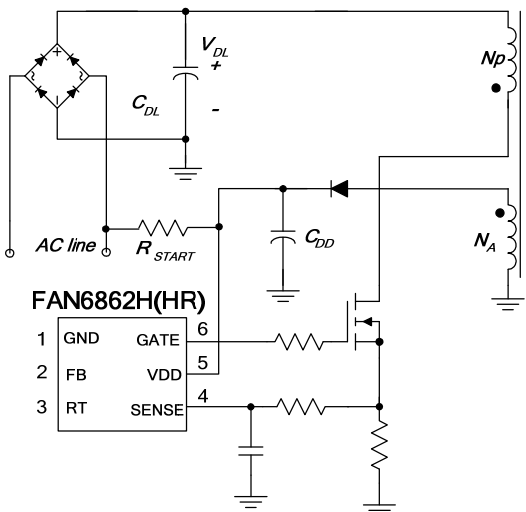

Figure 22. Startup Circuit
Figure 22 shows a typical startup circuit and transformer auxiliary winding for a FAN6862H(HR) application. Before FAN6862H(HR) begins switching, it consumes only startup current (typically 8 μ A) and the current supplied through the startup resistor charges the V_{DD} capacitor (C_{DD}). When V_{DD} reaches a turn-on voltage of 16V (V_{DD-ON}), switching begins and the current consumed increases to 2mA. Then, the power required is supplied from the transformer auxiliary winding. The large hysteresis of V_{DD} (8.5V) provides more holdup time, which allows using a small capacitor for V_{DD} . The startup resistor is typically connected to the AC line for a fast reset of latch protection.